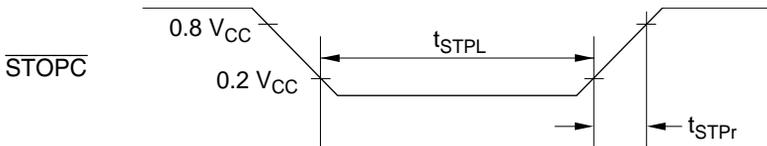

Figure 25-34 STOPC Timing (HD404369 Series)
6. See figure 25-34.
7. See figure 25-34.